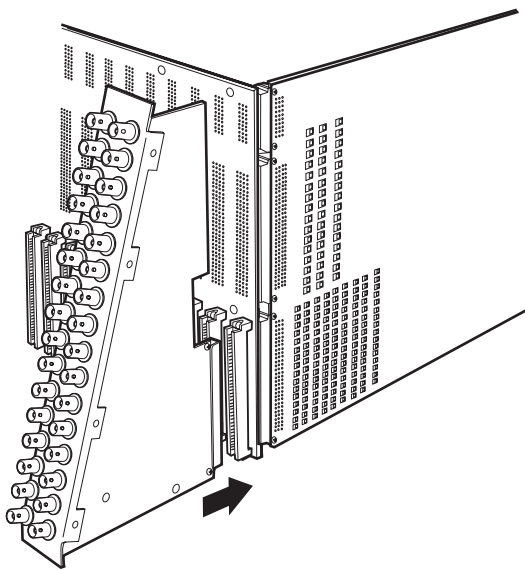

Figure 6. Insert a Rear Panel Video BNC Card (CM9770-RPC)
1. Slide the video BNC card into the card guides at the rear of the bay. From the rear of the bay, the slot at the far right provides the connection point for the video input card inserted in the front of the bay into slot 1. Refer to Figure 6.